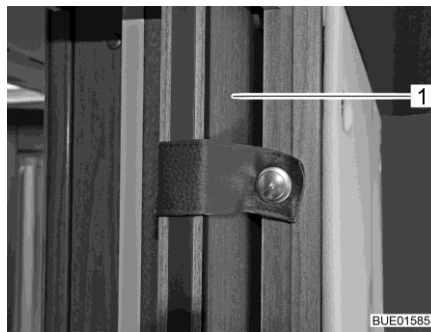
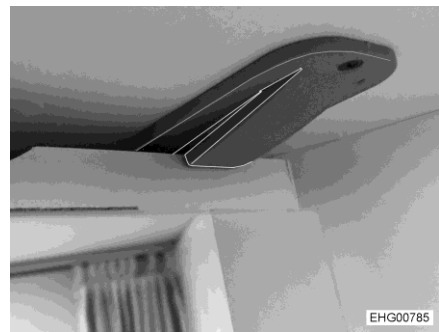

Fig. 10 Sliding door (example)
Fig. 11 Vario bath catch
- Secure the doors (Fig. 10,1) or partition walls with the provided locks and fixing means (Fig. 11 shows the Vario bath catch).